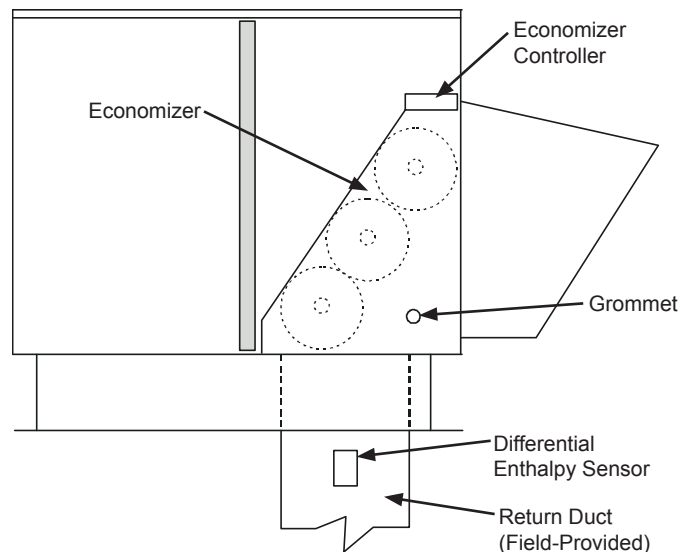
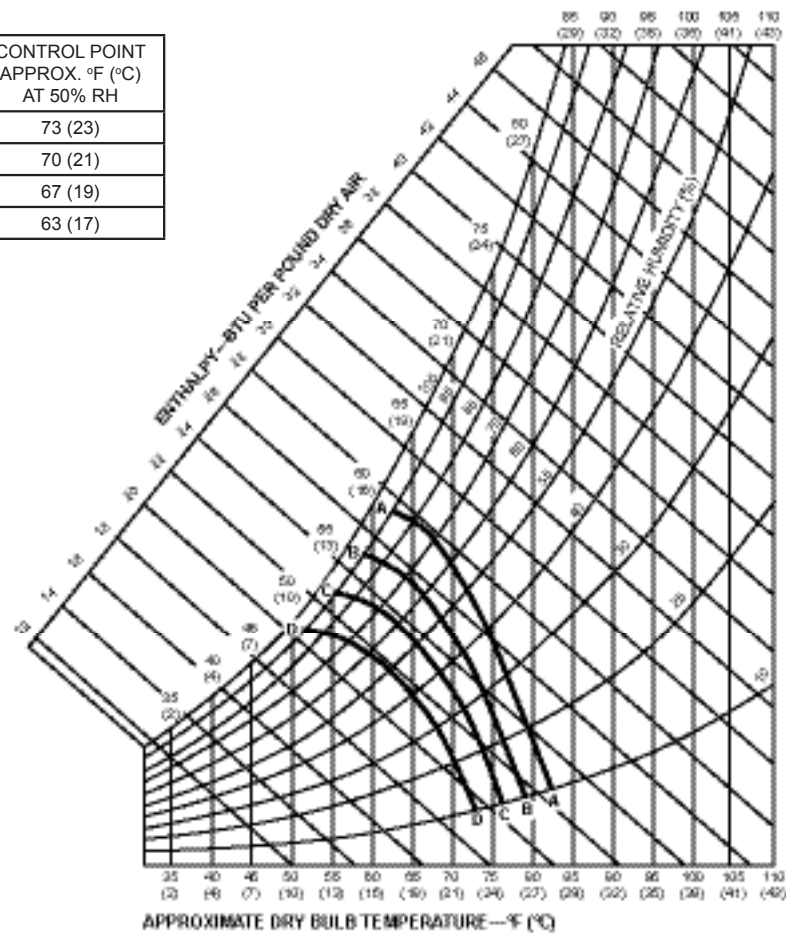

Fig. 13 - Differential Return Air Enthalpy Sensor Mounting Location
Fig. 14 - Enthalpy Changeover Setpoints
- While unit and economizer are open install and wire any other accessories and/or sensors as applicable and convenient, per their installation instructions and/or the Configuration section of this instruction. This includes the differential return enthalpy shipped with the ECD-SRT**SA-DWZS models, see figure 13 for details. Some accessories require that unit ducting already be installed.
- a. On -DWFS economizers with fixed dry bulb, the outside air temperature will allow free-cooling below 70 degrees F. On -DWDS economizers the outside air temperature allowed for free-cooling is adjustable on the C7660 sensor. See figure 12 for details. On -DWES and -DWZS economizers with a C7400 OA enthalpy sensor, the temperature / humidity allowed for free-cooling is adjustable with the ABCD potentiometer on the W7212 controller. See figure 14 for details. The -DWZS economizer also includes a field installed differential return enthalpy to be mounted in return duct. See figure 13.
2. Disconnect the supply air sensor from terminals T and T1 (See Fig. 14) and jumper them together. This fools the controller into believing the mixed air temperature is 55 °F so it does not modulate the damper.